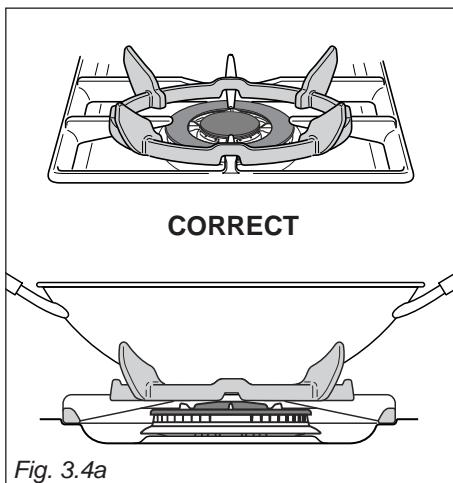
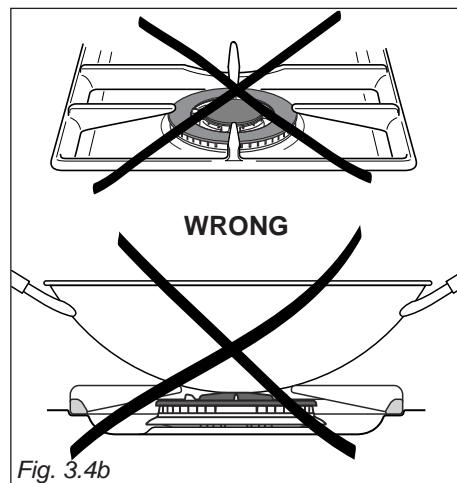
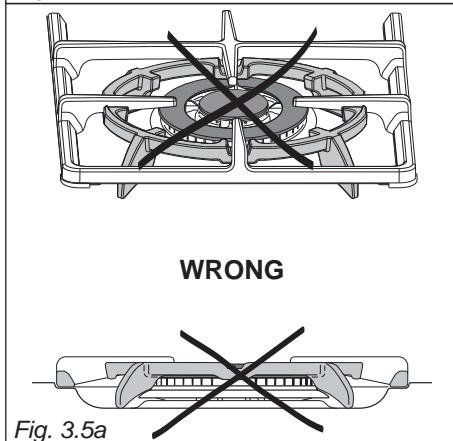

Fig. 3.4a
Fig. 3.4b
Fig. 3.5a
Only flat bottom pans of the correct size are to be placed on the pan support above the double-ring compact burner. When using a WOK, the supplied wok stand **must** be placed onto the pan stand to avoid any faulty operation of the double-ring compact burner (fig. 3.4a). The wok **should not** be placed directly onto the pan support without the use of the supplied wok stand (fig. 3.4b).
When using the wok stand it **MUST ONLY BE PLACED** over the pan support for the double-ring compact burner (fig. 3.4a). **Under no circumstances should the wok stand be placed under the pan supports** (figs 3.5a - 3.5b). Incorrect placement of the wok stand in this manner may impinge the flame resulting in incomplete combustion and give rise to harmful levels of Carbon Monoxide (CO).